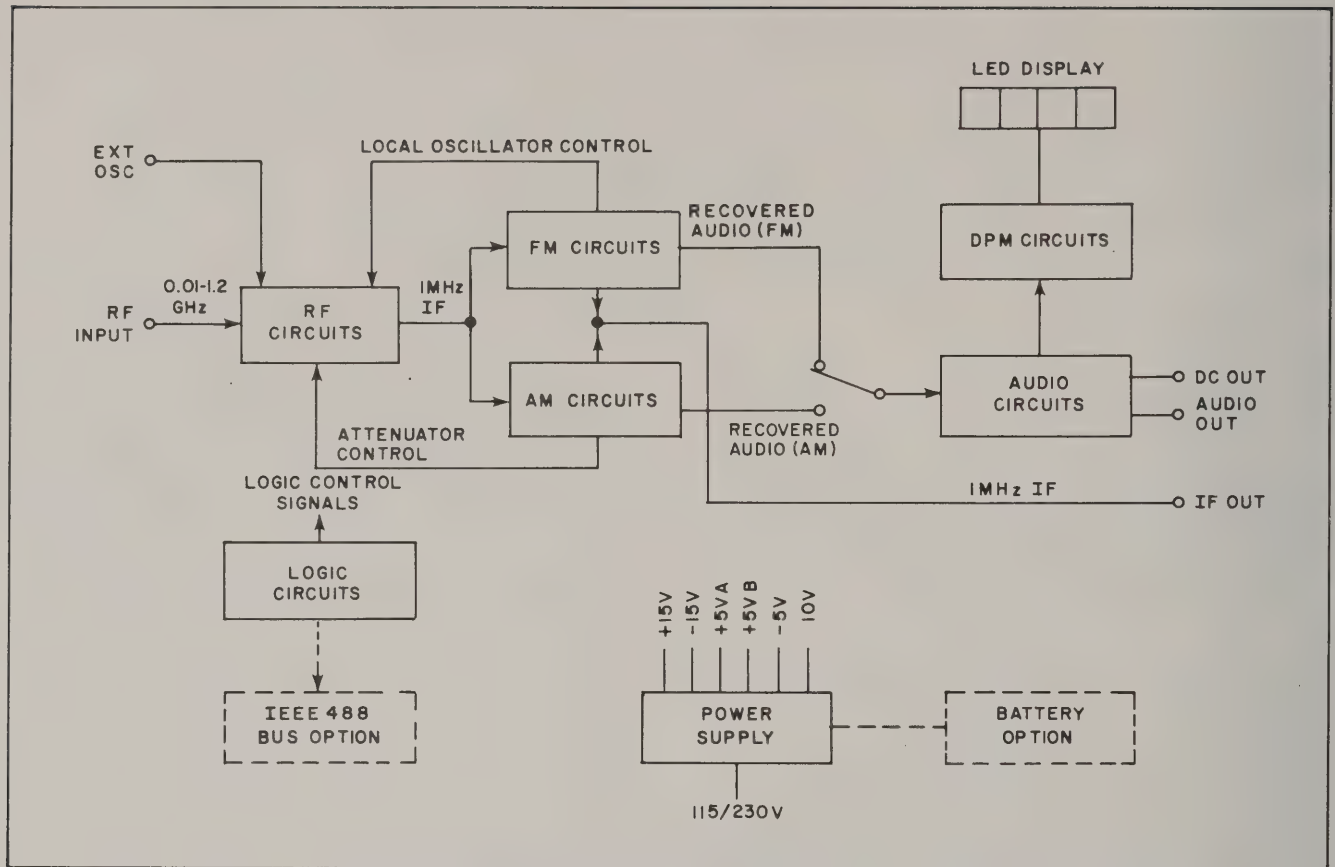

Figure 3-1 Simplified Block Diagram
(See Figure 3-1.)
**3-5. General.** For purposes of this discussion, the circuits of the Model 82AD can be grouped by function as follows: radio frequency circuits, frequency modulation circuits, amplitude modulation circuits, audio circuits, digital panel meter (DPM) circuits, logic circuits, and power supply circuits. Optional IEEE 488 interface circuits and battery supply circuits, may also be installed. Figure 3-1 presents the simplified block diagram of the Model 82AD.